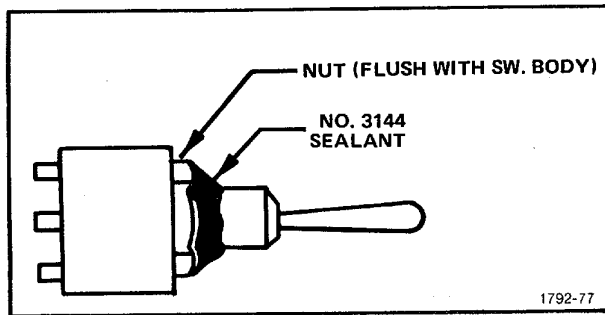

Figure 5-24. Application of sealant to RECORD toggle-switch nut.
2. Install nut that was supplied with the switch, as shown in Fig. 5-24.
3. Form a bead of No. 3144 sealant around the bushing/nut interface as shown in Fig. 5-24.